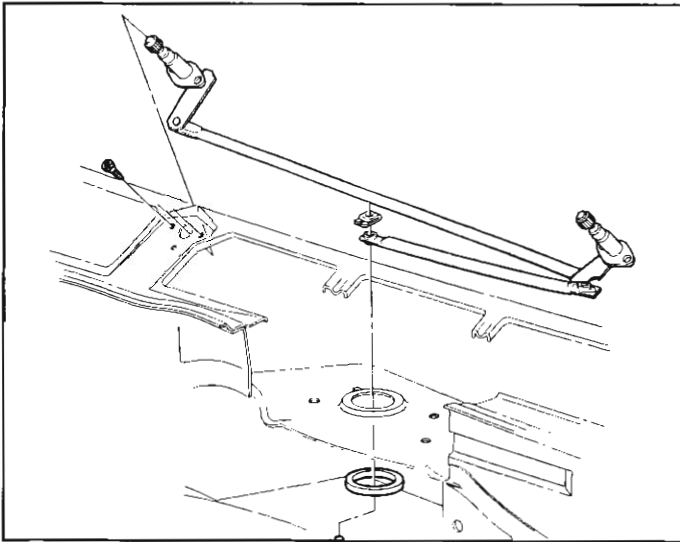

Fig. 39—Wiper Transmission Removal
3. Remove special clips retaining transmission drive arm to motor crank arm and left wiper transmission drive arm to right wiper drive arm (fig. 39).